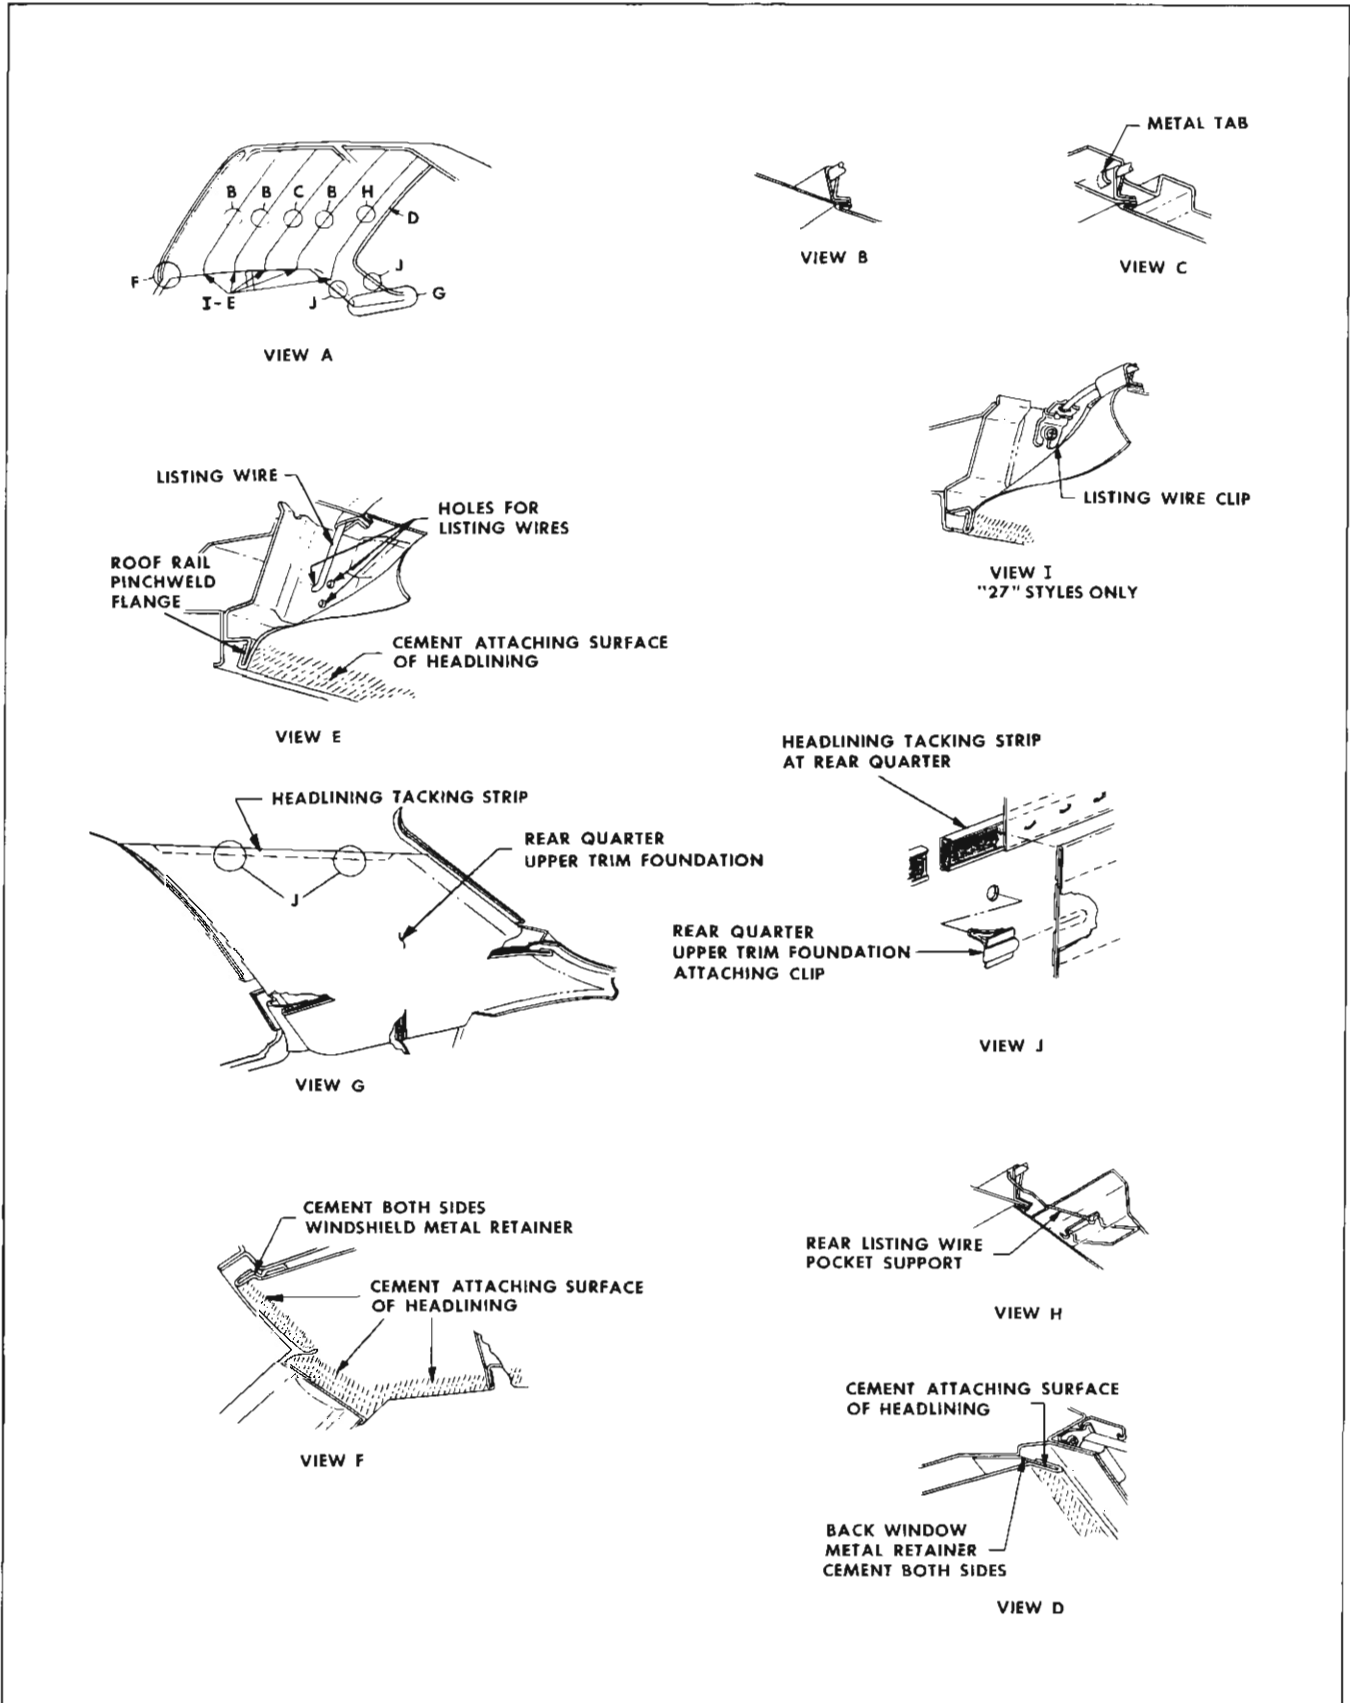
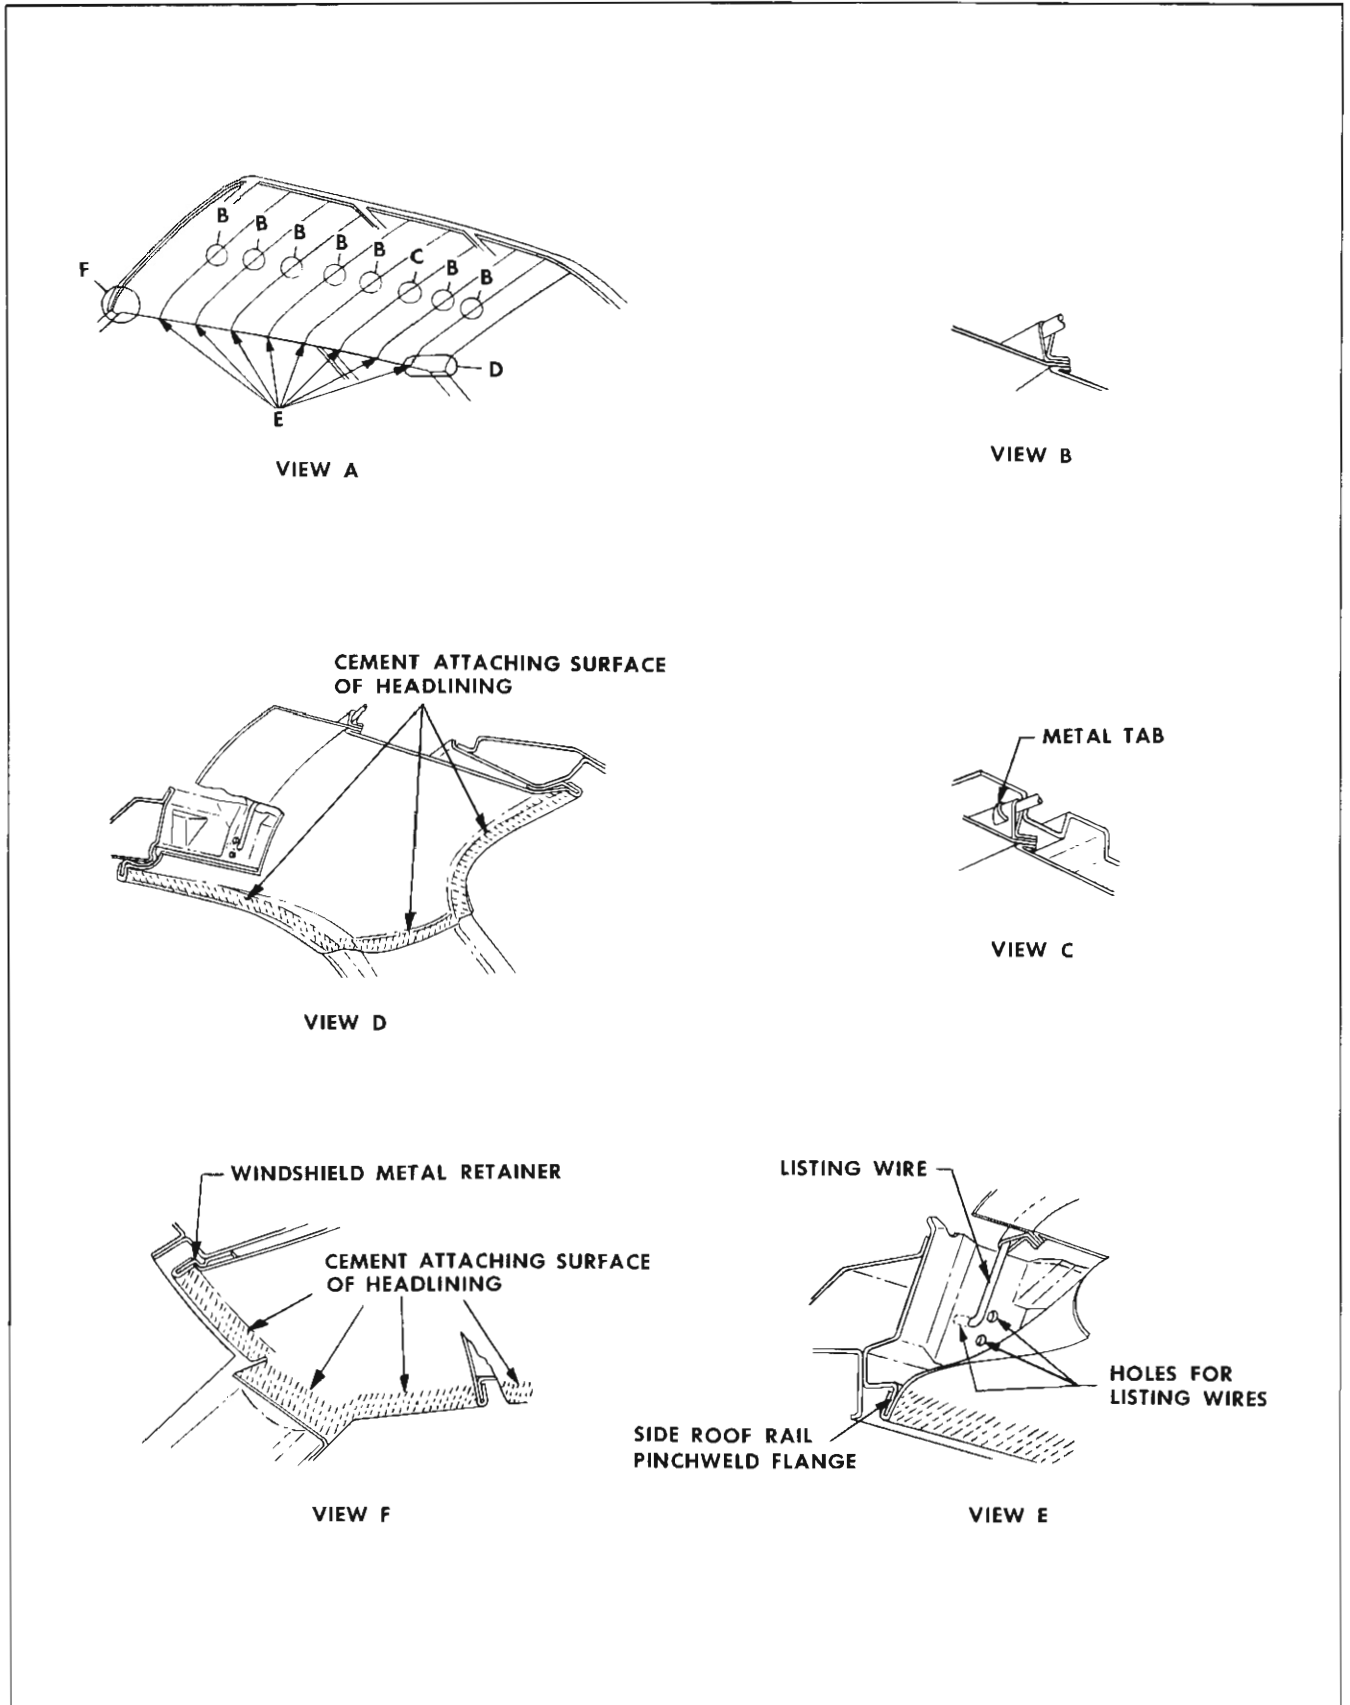

Fig. 16-1 Headlining Installation
Fig. 16-2 Headlining Installation
The headlining is formed to the contour of the roof panel by concealed listing wires. Both ends of the wires are installed in holes in the side roof rails on all styles except 27. On 27 styles, the listing wires are installed in holes in the side roof rail on the left side and into clips on the right side. The headlining material is cemented around metal retainers at the windshield and back window or body opening. The sides of the material are cemented to the roof side inner rail pinchweld flanges. On 45 styles, the rear quarter material is cemented to the body lock pillars and rear window or back body opening pinchweld flanges. On 27 and 69 styles, the headlining is attached to a tacking strip at the rear quarter area by tacks or staples (view J, Fig. 16-1). Finishing lace, rear quarter finishing moldings, two rear quarter trim foundations, and pillar trim plates cover the headlining material edges and assist in holding the material in place.
- f. Loosen rear quarter upper trim foundation by prying upper foundation fasteners loose from roof extension inner panel (view J, Fig. 16-1). Fold trim foundation down on rear compartment shelf.
4. Working from front to rear of body, disengage headlining listing wires from side roof inner rails except 27 styles. On 27 styles remove listing wires from left side rail holes and clips on right side (view I, Fig. 16-1). Gather or roll headlining with listing wires on outside to keep headlining clean.
5. At No. 3 and 6 roof bows, bend down metal tabs securing listing wires and listing wire pockets (view C, Fig. 16-1 and Fig. 16-2). Remove listing wires and pocket from support (view H, Fig. 16-1).
openings. Cement must be applied to both sides of headlining retainers (views D and F, Fig. 16-1 and Fig. 16-2).
5. Lift headlining into body and install rear listing wires in side roof rails except 27 and 37 styles (view E, Fig. 16-1, and Fig. 16-2). On 27 styles, install listing wires in left side roof rail and attach right side by clips. (view I, Fig. 16-1).
6. Center and align headlining in relation to back body opening and side roof rails. On 27 and 69 styles, insert rear listing wire support through listing wire pocket (view H, Fig. 16-1).
8. Install headlining listing support wire over metal tabs on roof bow. Bend up tabs so that support wire is securely fastened to roof bow (view C, Fig. 16-1 and Fig. 16-2).
12. Trim excess material from edges of headlining, at windshield, back window and around rear quarter areas except 27 and 69 styles. On 27 and 69 styles tack headlining to rear quarter trim stick (view J, Fig. 16-1).
13. Using a headlining inserting tool, install trimmed edges of headlining to outer surface of side roof inner rail and at windshield and back window retainers to give headlining a finished appearance (views D, E and F, Fig. 16-1 and views D, E and F, Fig. 16-2).